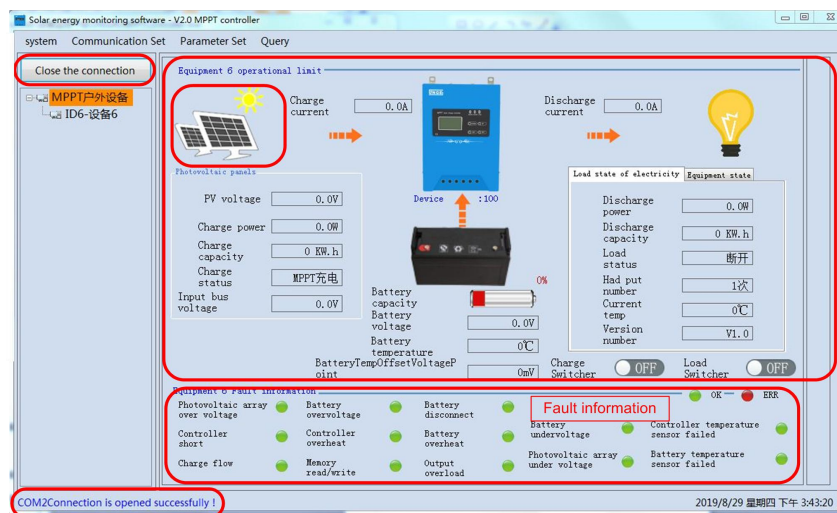

Figure 3-1 Charging status display
1.2. The icon lights up, various operating parameter settings are displayed, and the charge and discharge levels are accumulated at the same time. If an alarm event occurs, the item corresponding to the fault alarm interface will turn red, as shown above figure3-1.